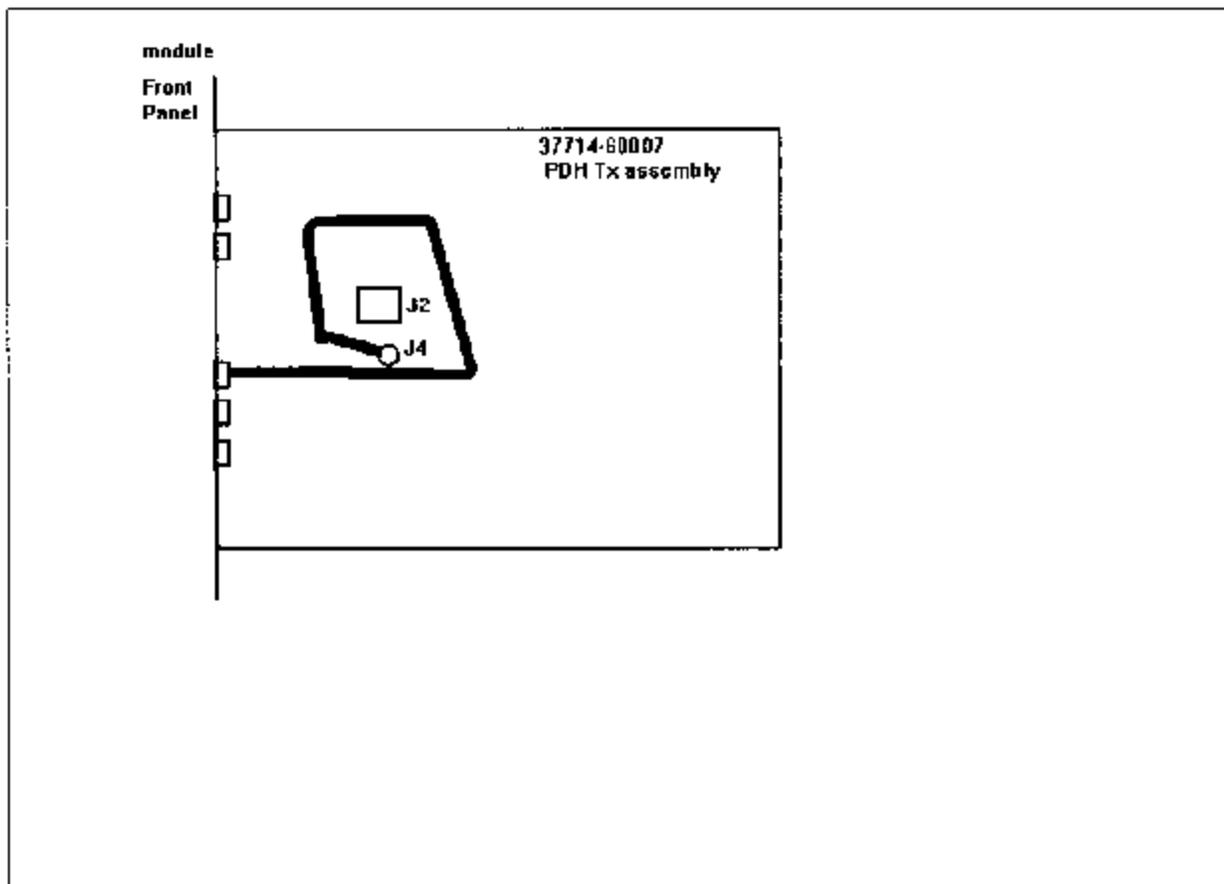

Figure 1 : Showing Preferred Route for cable A7 J4 to Module Front Panel
10. Locate the coaxial socket A7 J4 and re-route the plug-in connector and cable leading from this socket to the Front Panel as shown in Figure 1.